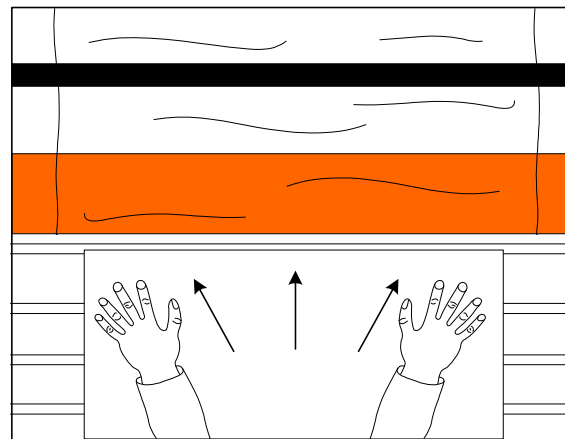

Figure 26
10. With both hands and an outward force push the image slower than the speed of the rollers into the nip of the heat rollers (Fig. 26).